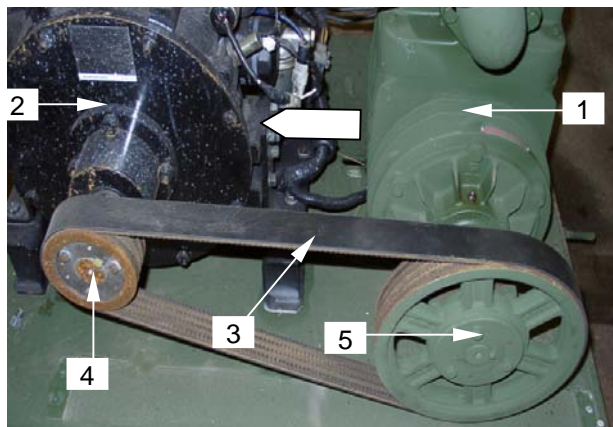

Figure 10. Removing Drive Belt
8. Push vacuum pump (**figure 10, item 1**) towards the engine (**figure 10, item 2**) to loosen and remove the drive belt (**figure 10, item 3**) from engine pulley (**figure 10, item 4**) and vacuum pump pulley (**figure 10, item 5**).